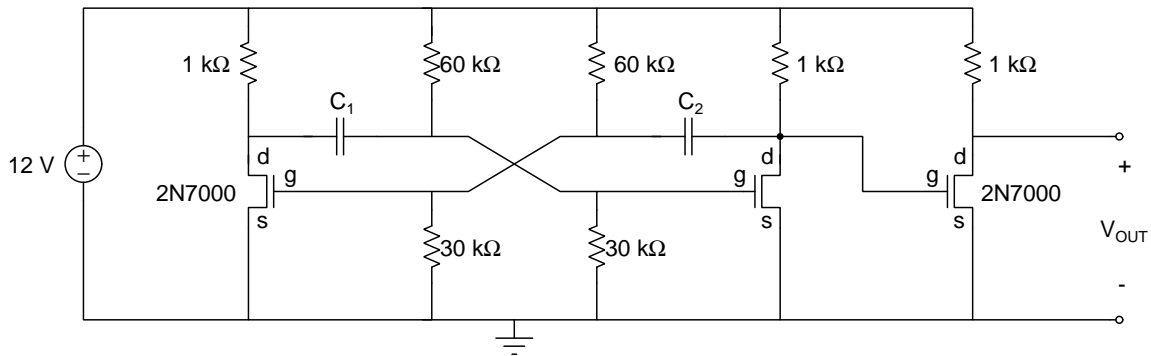

Figure 3: Astable multivibrator oscillator circuit of Figure 2 with an added 2N7000 transistor used as an output buffer.
4. The shape of the output signal can be improved by reducing the amount of capacitance on the output node. Add a third transistor to the circuit, to act as a buffer, as shown in Figure 3. This third transistor will invert the output signal. Hence, you will need to switch capacitors  $C_1$  and  $C_2$  to maintain the same duty cycle at the output.